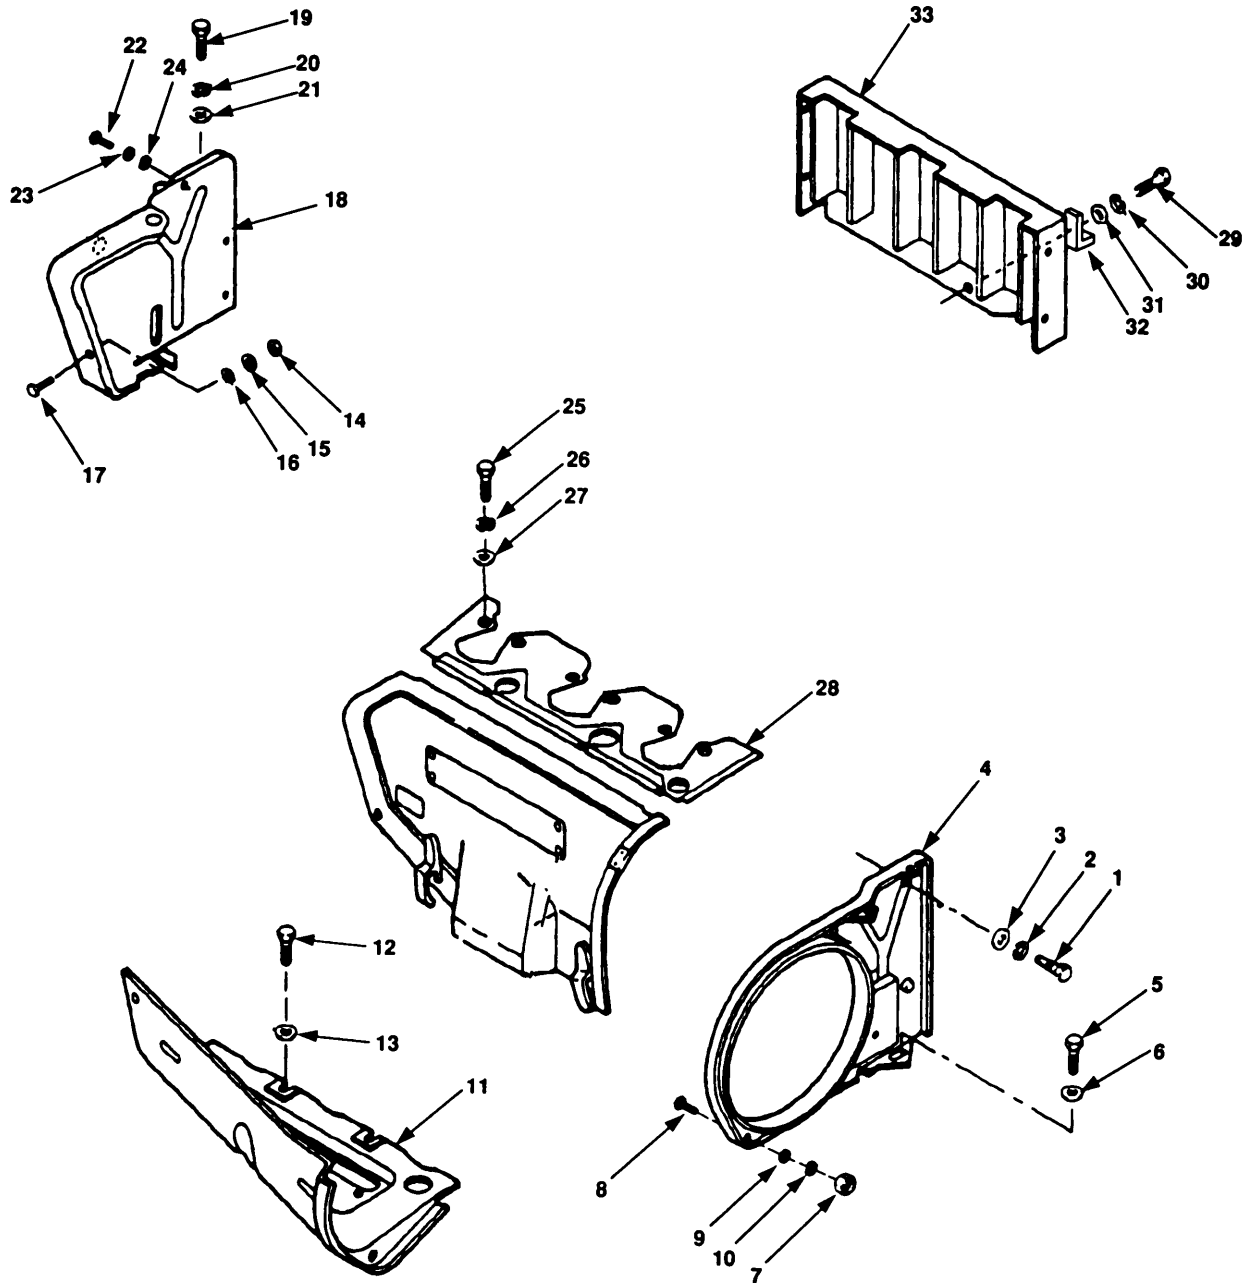

Figure 5-8. Engine Cowlings Maintenance.
- a. Remove three bolts (figure 5-8, 1), lockwashers (2), and washers (3) from forward vertical cowling (4).
- b. Remove bolt (5) and washer (6) securing forward vertical cowling (4) to engine.
- c. Remove nut (7), bolt (8), lockwasher (9), and washer (10) securing forward vertical cowling (4) to lower cowling (11).
- d. Remove forward vertical cowling (4).
- e. Remove three bolts (12) and washers (13) attaching lower cowling (11) to engine.
- f. Remove nut (14), lockwasher (15), washer (16), and bolt (17), attaching lower cowling (11) to rear vertical cowling (18) .
- g. Remove lower cowling (11).
- h. Remove bolt (19), lockwasher (20), and washer (21) from rear vertical cowling (18).
- i. Remove three bits (22), washers (23), and lockwashers (24).
- j. Remove six bolts (25), one washer (26) and six washers (27) from cylinder cowling (28).
- k. Remove cylinder cowling (28) and rear vertical cowling (18).